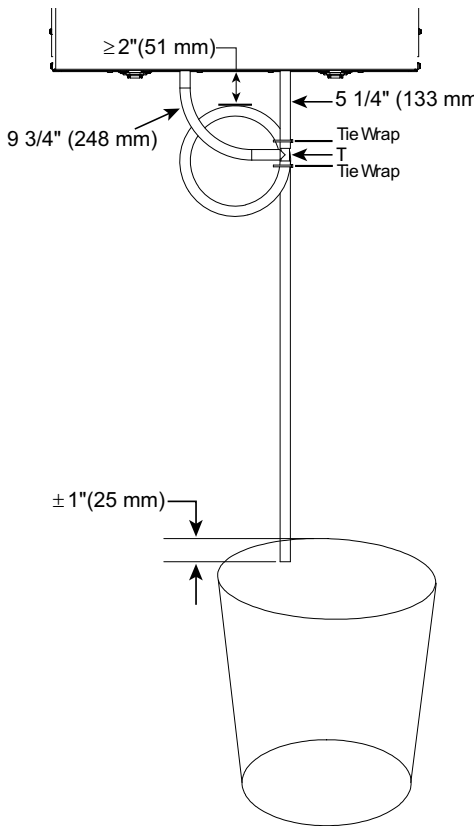

Fig. 10 – Drain Connection
- Cut the appropriate length of drain tubing (Fig. 10).